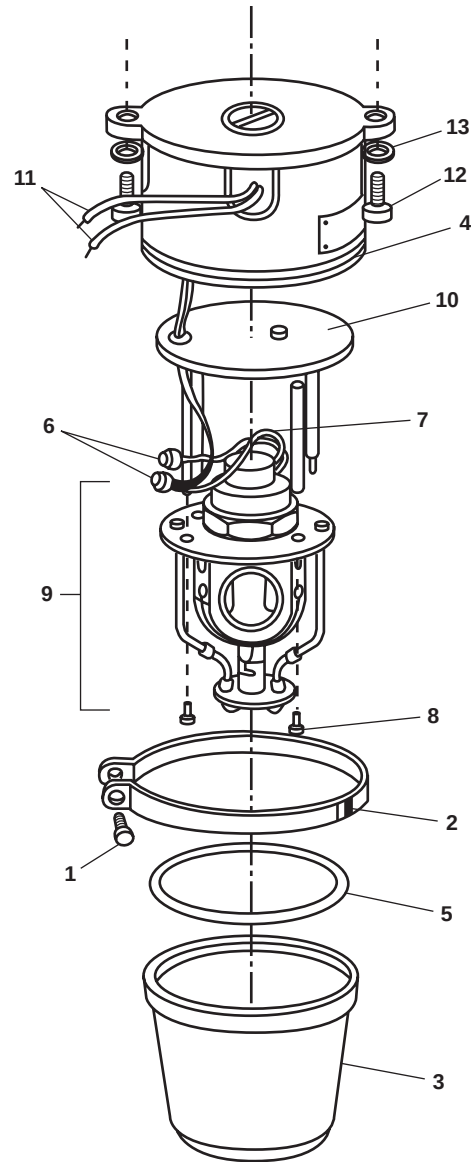

Figure 1. General Alarm Rotating Beacon
1. Loosen the locking screw (figure 1, item 1) just enough to allow removal of the clamp ring (figure 1, item 2).
2. Remove the clamp ring (figure 1, item 2) by sliding it over the bottom of the dome (figure 1, item 3).
3. Remove the dome (figure 1, item 3) from the base (figure 1, item 4).
4. Remove and discard the gasket (figure 1, item 5).
5. Use a multimeter to check for voltage at the at connection points under the wire nuts (figure 1, item 6). If voltage is present, ensure that the proper circuit breaker is set to OFF, locked out, and tagged out (FM 55-502). If no voltage is present, continue with the procedure.
6. Label and disconnect the wiring (figure 1, item 7).
7. Remove the four retaining screws (figure 1, item 8) that secure the roto-beam assembly (figure 1, item 9). Remove it from the base plate (figure 1, item 10).
8. Remove the base plate (figure 1, item 10) to gain access to the inside of the base (figure 1, item 4) of the beacon.
9. Label and remove the wiring (figure 1, item 11) inside the base (figure 1, item 4).
10. Remove the bolts (figure 1, item 12) and washers (figure 1, item 13) that secure the base (figure 1, item 4) to the mounting bracket.
1. Secure the base (figure 1, item 4) of the beacon to the mounting bracket with the bolts (figure 1, item 12) and washers (figure 1, item 13).
2. Install the wiring (figure 1, item 11) inside the base (figure 1, item 4) of the beacon using the labels from step 9 of Removal as a guide. Remove the labels.
3. Install the base plate (figure 1, item 10).
4. Install the roto-beam assembly (figure 1, item 9) securing it with the four retaining screws (figure 1, item 8).
5. Install the wiring (figure 1, item 7) using the labels from step 6 of Removal as a guide. Remove the labels.